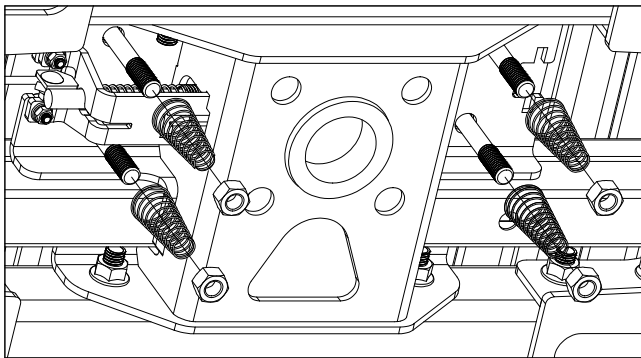

Figure H2: View looking up under center section.
3. **Add Springs.** Place a conical spring over each leg of the U-bolts and secure with a 5/8" lock nut, see Figure H2. Tighten the lock nut until the nut is flush with the end of the U-bolt.